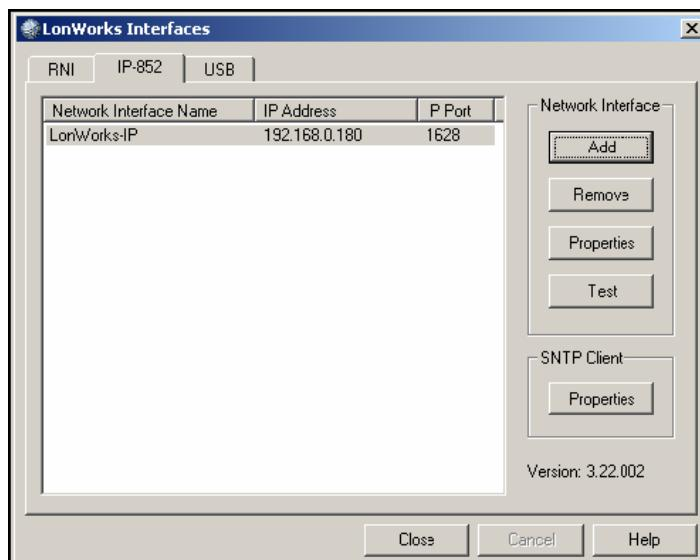

Figure 29: LONWORKS Interfaces Dialog Box — IP-852 Tab
3. Click the IP-852 tab (Figure 29).